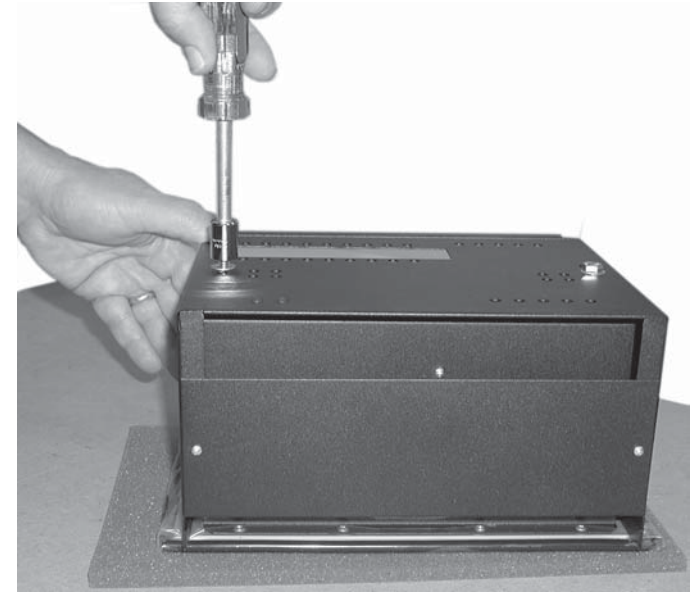

Figure B-2 — Attaching the clamshell
3. Bolt the clamshell to the enclosure with two bolts and flat washers included in the return kit (figure B-2).